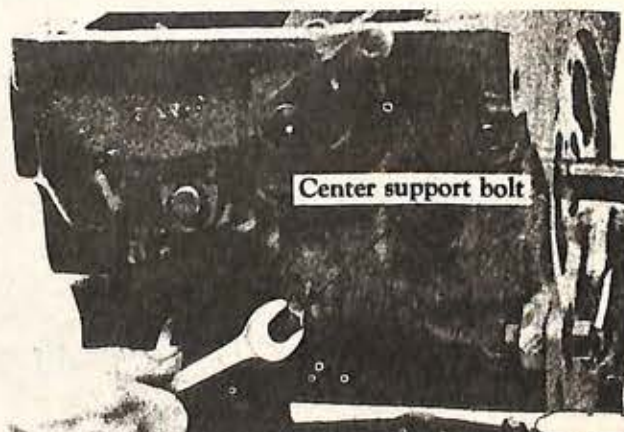

Fig. 54
3. Remove the two center support outer bolts (one each side) Fig. 54) from the transmission case.